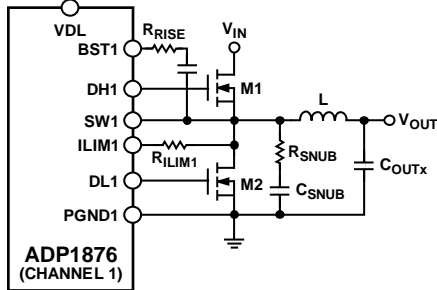

Figure 32. Application Circuit with a Snubber
In any high speed step-down regulator, high frequency noise (generally in the range of 50 MHz to 100 MHz) and voltage overshoot are always present at the gate, the switch node (SW), and the drains of the external MOSFETs. The high frequency noise and overshoot are caused by the parasitic capacitance,  $C_{GD}$ , of the external MOSFET as well as the parasitic inductance of the gate trace and the packages of the MOSFETs. When the high current is switched, electromagnetic interference (EMI) is generated, which can affect the operation of the surrounding circuits. To reduce voltage ringing and noise, it is recommended to add an RC snubber between SWx and PGNDx for high current applications, as illustrated in Figure 32.
A resistor, shown as  $R_{RISE}$  in Figure 32 at the BST1 pin, helps to reduce overshoot and is generally between 2  $\Omega$  and 4  $\Omega$ . Adding a resistor in series, typically between 2  $\Omega$  and 4  $\Omega$ , with the gate driver also helps to reduce overshoot. If a gate resistor is added,  $R_{RISE}$  is not needed.